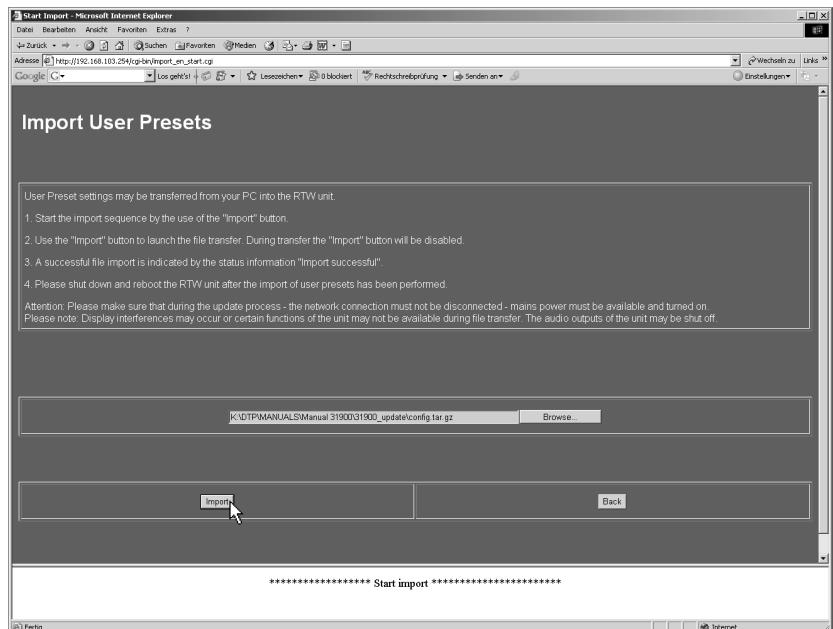

Fig. 8-23: Starting the import
5. A click to the **Import** button starts the data transfer to the SurroundControl units (see Fig. 8-23). If the **Import** button is not visible move the menu page upward by using the scrollbar on the right. **Please make sure that no interruption of the network access or supply power occurs during the download sequence.**